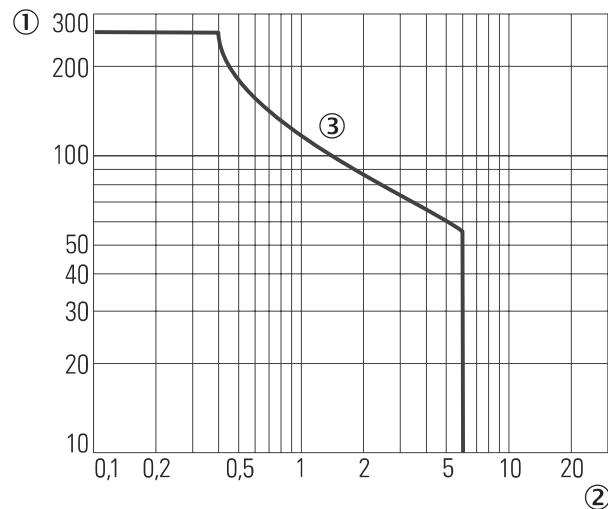
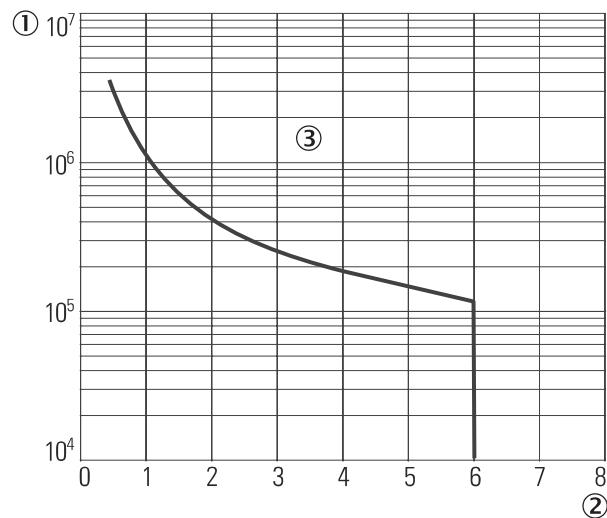

Figure 64: Maximum switching voltage for direct current, UE410-2RO/UE410-4RO relay modules
Figure 65: Electrical endurance of UE410-2RO/UE410-4RO relay modules
Electrical endurance	see figure 65, page 169
1) see figure 64, page 168 or see figure 65, page 169.